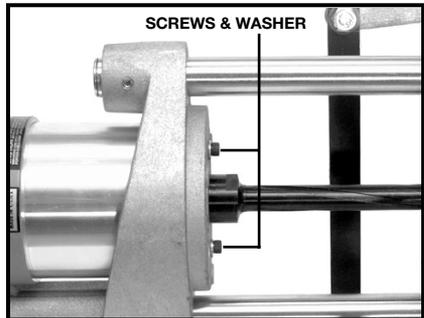

Fig. 4
3. Insert the two screw and washer assemblies (from Step 1) through motor carriage (see Fig. 4) and thread into the threaded holes in motor housing. Tighten securely with allen wrench.
**EXAMPLE:** If the mortise is to be 4" (101.6 mm) long, turn adjusting knob (U) until the Fig. 4 graduation mark lines up with the line on the crank pin indicating washer.